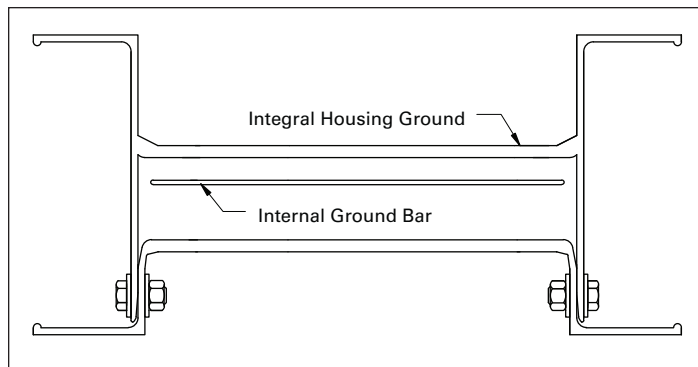

Figure 13. Housing ground vs. internal ground
The integral housing ground is where the extruded aluminum housing is used as the ground path and no internal ground conductor is provided. The housing is UL Listed as a 50% integral ground path. This type of ground path is as effective as a ground conductor as an internal ground bar. **Table 12** shows a cross-sectional comparison between the aluminum housing and internal ground bar. The integral housing ground provides a larger ground path that is over 100% of the cross-sectional area of the phase conductors. **Figure 13** illustrates the difference between the two grounding options.
① 100% ground available with same dimensions, which uses 50% internal ground and 50% internal housing ground.
② Refer to **Figure 13** on **Page 12** for configuration A and B.